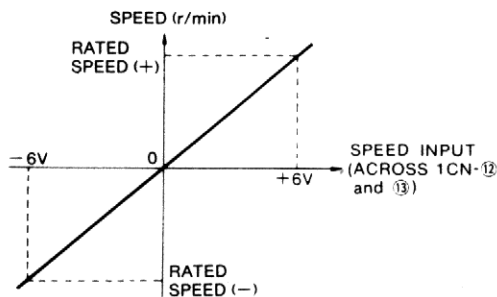

Fig. 12.1 Speed Reference Input-Servomotor Speed Ratio
- (1) Speed reference input-servomotor speed ratio (no load) (Fig. 12.1)